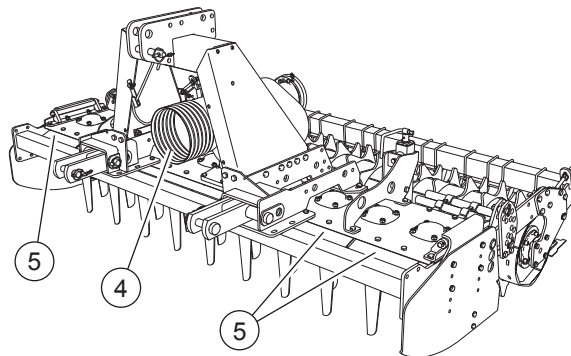

FIG. 23
- PTO guard, rear side (4, "Fig. 23").
- Protective plate for preventing access to the blades (5).